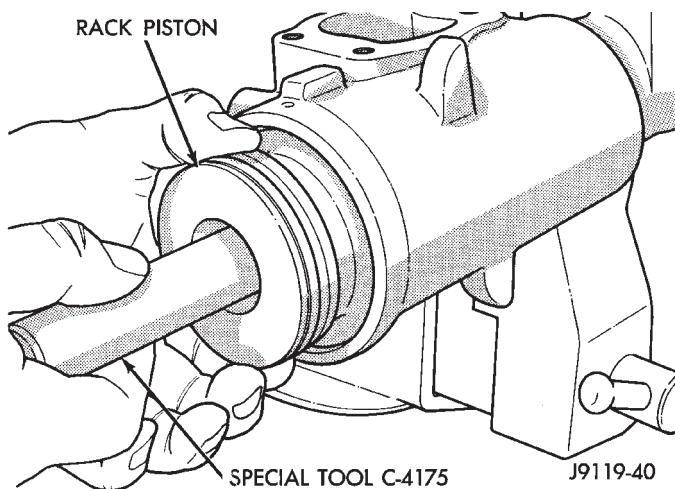

Fig. 21 Rack Piston with Arbor
- (4) Turn stub shaft COUNTERCLOCKWISE until the rack piston begins to come out of the housing.
- (5) Insert Arbor C-4175 into bore of rack piston (Fig. 21) and hold tool tightly against worm shaft.
- (6) Turn the stub shaft COUNTERCLOCKWISE, this will force the rack piston onto the tool and hold the rack piston balls in place.